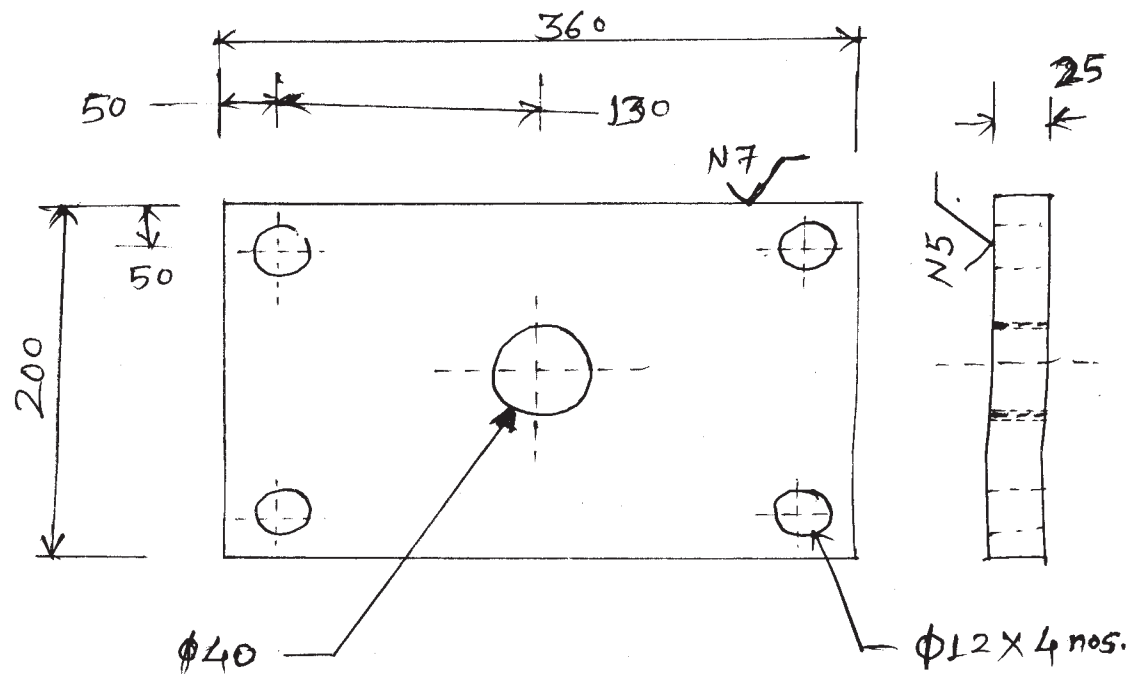

Fig. No. 1
- Prepare operation sheet and route sheet for the component shown in **Fig. No. 1**. (Assume suitable units).